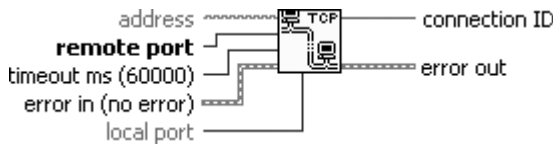

Figure 16.51
1. Request a TCP connection (see Figure 16.51). You can set a timeout to avoid hanging your VI if the server doesn't respond.